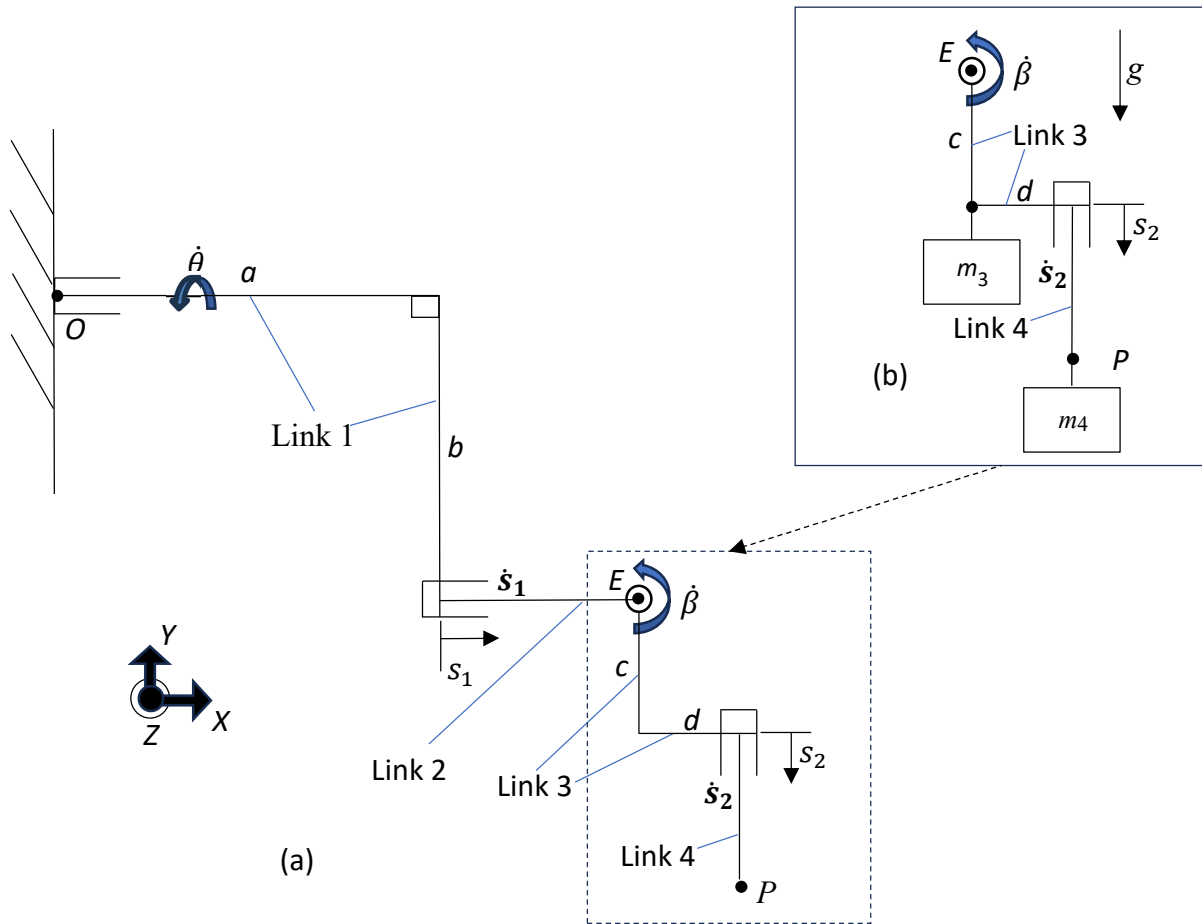

Figure 3
3. The robot in Figure 3(a) consists of two rotating L-bars (link 1 and 3) and two translational links (links 2 and 4). The angular displacements of rotational joints are θ and β , and the displacements of the translational joints are s_1 and s_2 . Link 1 is rotating with a constant angular velocity of $\dot{\theta}$ about the X- axis; link 2 is translating horizontally at constant velocity of \dot{s}_1 ; link 3 is rotating with a constant angular velocity of $\dot{\beta}$ about the Z-axis and link 4 is translating vertically at a constant velocity of \dot{s}_2 . Note that the configuration shown in the figure is the initial position of the system.
- (c) By making use of the results obtained above, express the steps to find the kinetic and potential energies of the system shown in Figure 3(b) for link 3 and link 4 only towards formulating Lagrangian. The moment of inertia at point E and P are I_E & I_P respectively. The telescopic link 4 and load are modelled as a mass m_4 acting at point P and the rotating link 3 and load are modelled as a mass m_3 acting at the corner point of the L-bar. (Note: Do not expand the expressions.)
Note: Figure 3 appears on page 4.